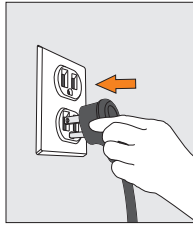
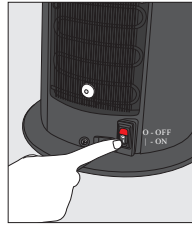

Figure 5
Figure 6
4. Ensure that the available power supply matches the cooler's voltage specifications indicated on the nameplate label (located at the rear). Plug power supply cord into receptacle(Figure 5). Please ensure that cooler is set up so as access to the power outlet and plug is unobstructed. Turn on heater switch(Figure 6).